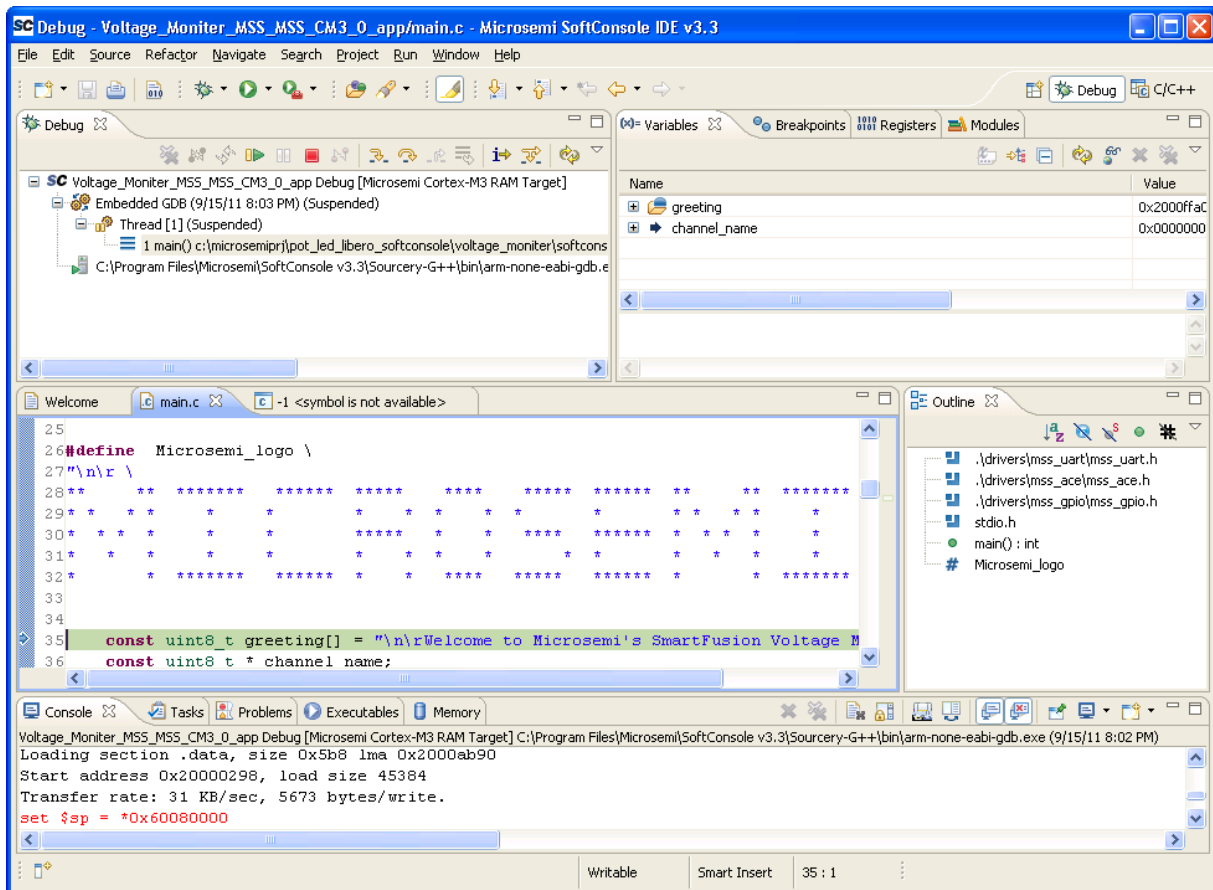

Figure 38 · Debug Perspective
7. Your Debug Perspective should resemble Figure 38 :